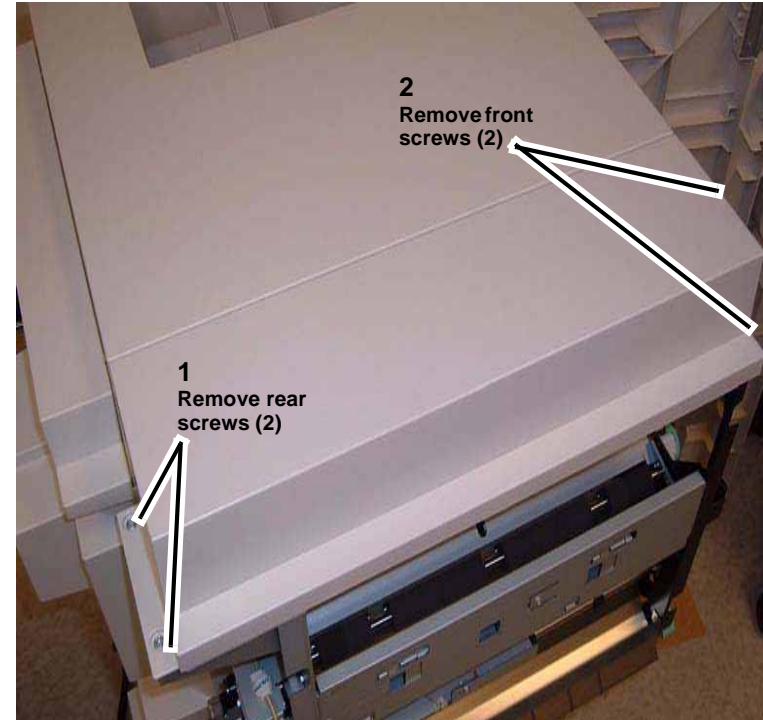

Figure 1 Removing the I/F Top Cover
3. Remove the I/F Module Top Cover (Figure 1).